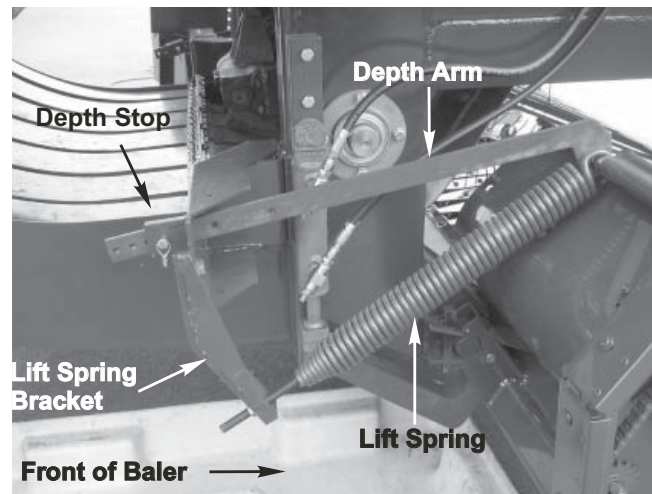

Figure 1-7 Pickup lift spring
5. Connect pickup lift spring, lift arm and lift spring bracket. Refer to your Parts Manual for assembly illustration (see Figure 1-7).